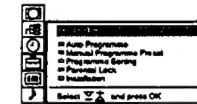

Fig. 6
- 1 Select the symbol  for "Preset" with  $\Delta$  or  $\nabla$  and press OK. The PRESET menu appears. (See Fig. 6.)